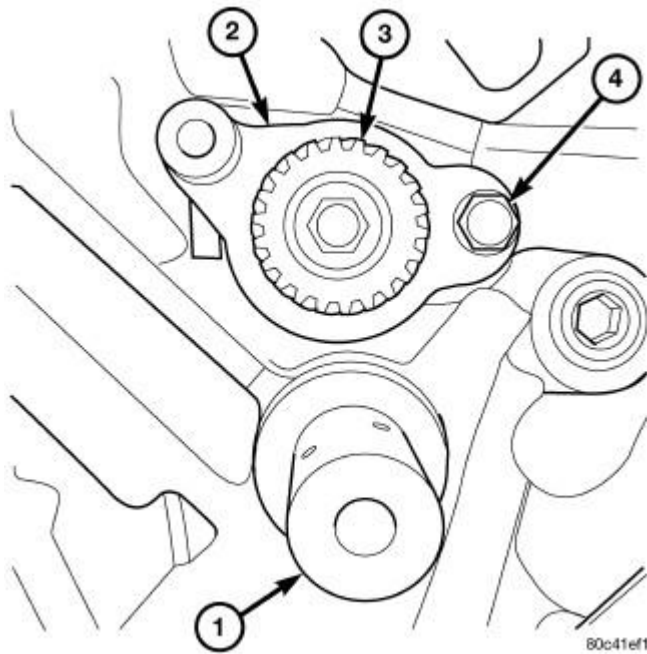

Fig. 94: Idler Shaft, Counterbalance Shaft Thrust Plate And Drive Gear & Retaining Bolt
3. Install Counterbalance shaft thrust plate retaining bolt (4) finger tight. Do not tighten bolt at this time.
5. Tighten the thrust plate retaining bolt (4) to 28 N.m (250 in. lbs.). Refer to **Fig. 94**.